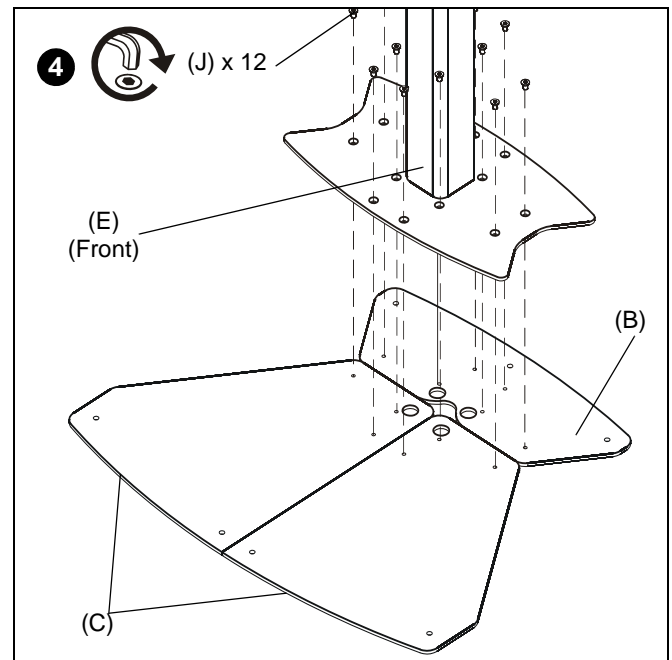

Figure 4
3. Place top base section and center post assembly on top of the three base pieces with the center post front facing base pieces (C). (See Figure 4)
4. Fasten lower base pieces (B and C) to top base section and center post assembly using twelve 5/16-18 x 1/2" flat head cap screws (J). (See Figure 4)